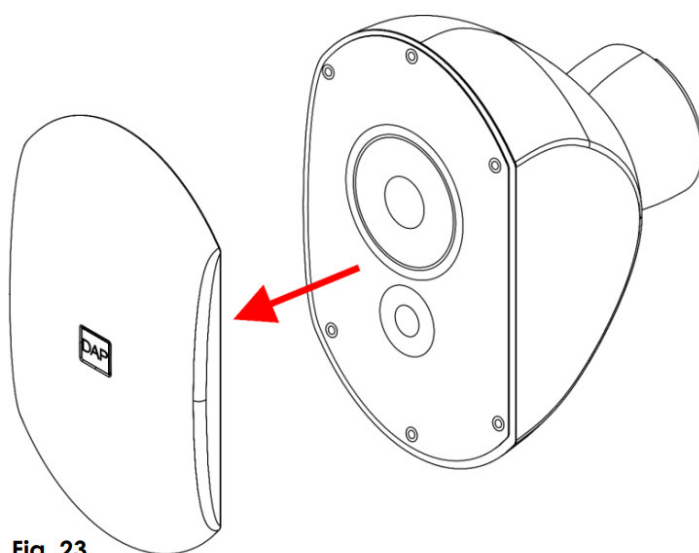

Fig. 23
1. Pry up the speaker grill (01) and remove it from the device (Fig. 23).